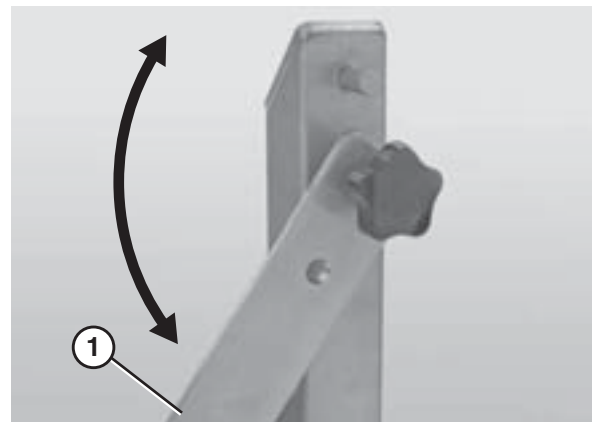

**Figure 42**
1. Place the idler tail (Figure 42, item 1) in the UP position.